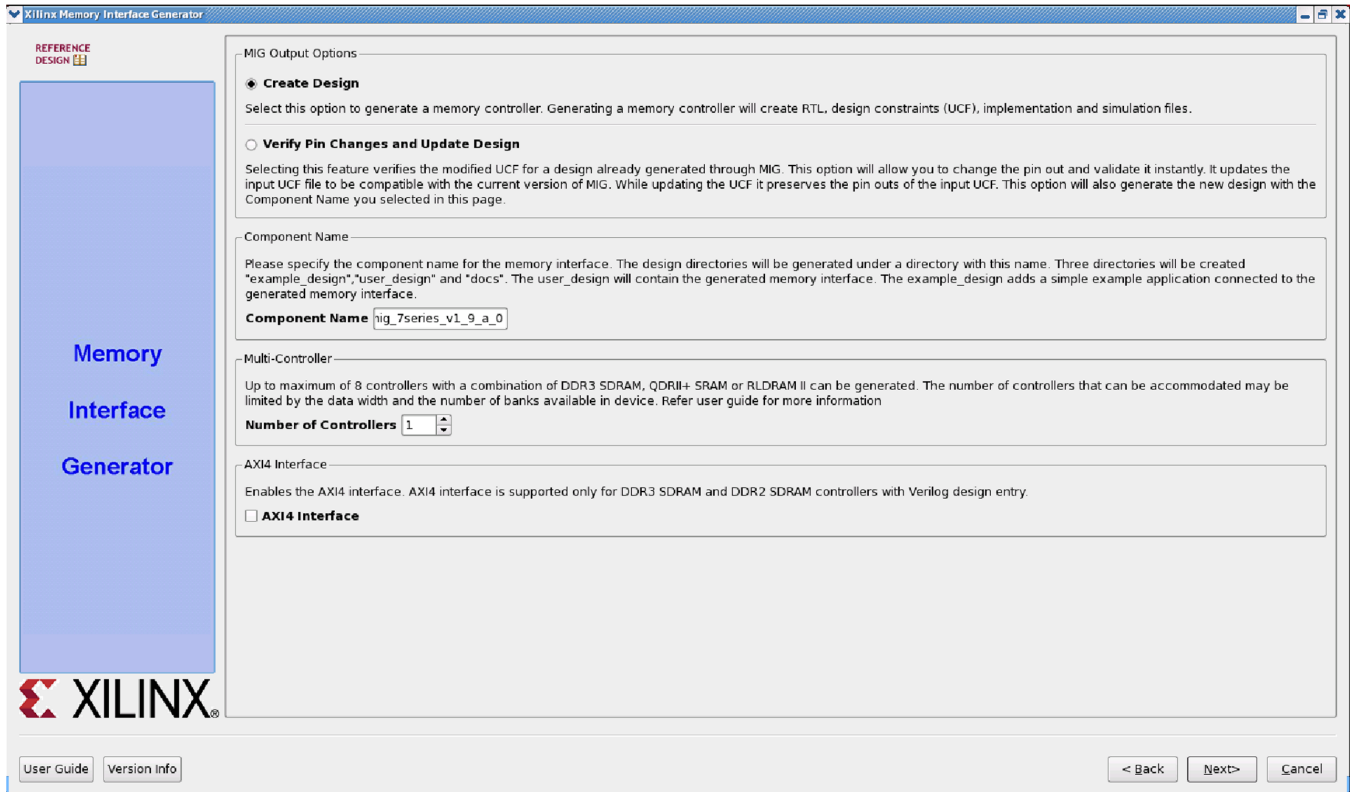

Figure 4-14: MIG Output Options
1. Select **Create Design** to create a new Memory Controller design. Enter a component name in the Component Name field (Figure 4-14).